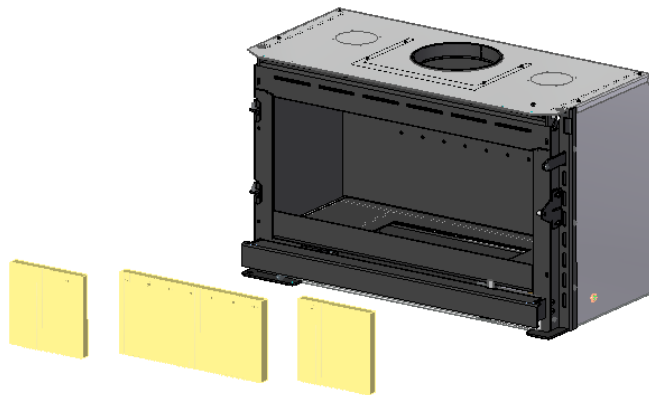

Figure 41 – Removing the vermiculite back parts from the equipment
4. Remove the 3 pieces from the back by moving to the front of the unit and rear to the outside of the unit, Figure 41.